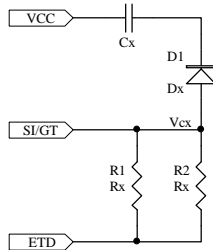

Figure 2.
- Decreasing T₄ (T₄ < T₅) Fig. 2